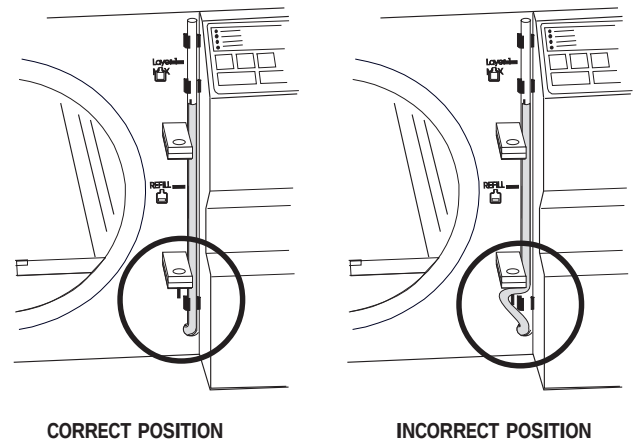

Figure 5-4b
4. Verify that the water level tube is in an upright position and secure in its holders (Figure 5-4b). Make sure that the water level tube is not contacting or interfering with the "Door Latched" sensor lever arm.